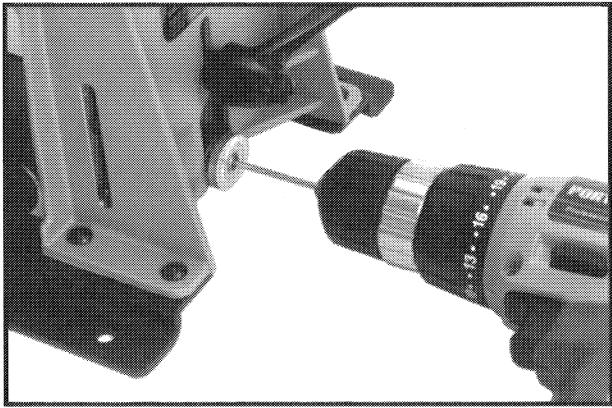

Fig. 9
6. BEFORE RELEASING WORK CLAMP, drill clearance hole for screw (see Fig. 9).
8. Retighten collet after each fifty (50) cuts made, to prevent bit slippage.